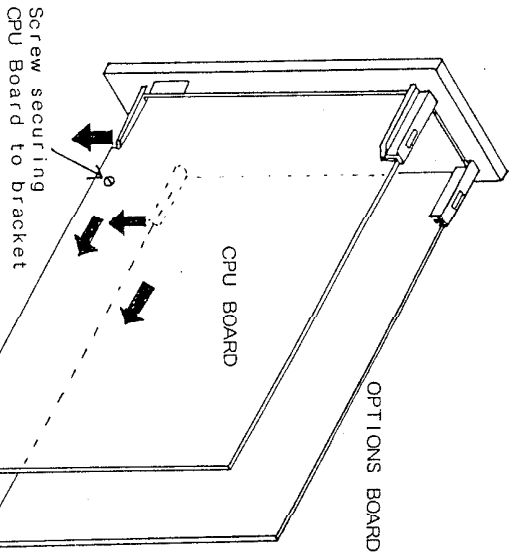

FIGURE 5-1 - DETACHING THE PCBs FROM THE FRONT PANEL
- 2) Grasp the plastic guides projecting rearwards from the bottom of the front panel (See Figure 5-1), and pull them downwards until the bottoms of the PCBs can be disengaged from the guides and withdrawn backwards. Next grasp the plastic guides at the top of the front panel and disengage the tops of the PCBs. The two PCBs can now be detached from the front panel assembly.